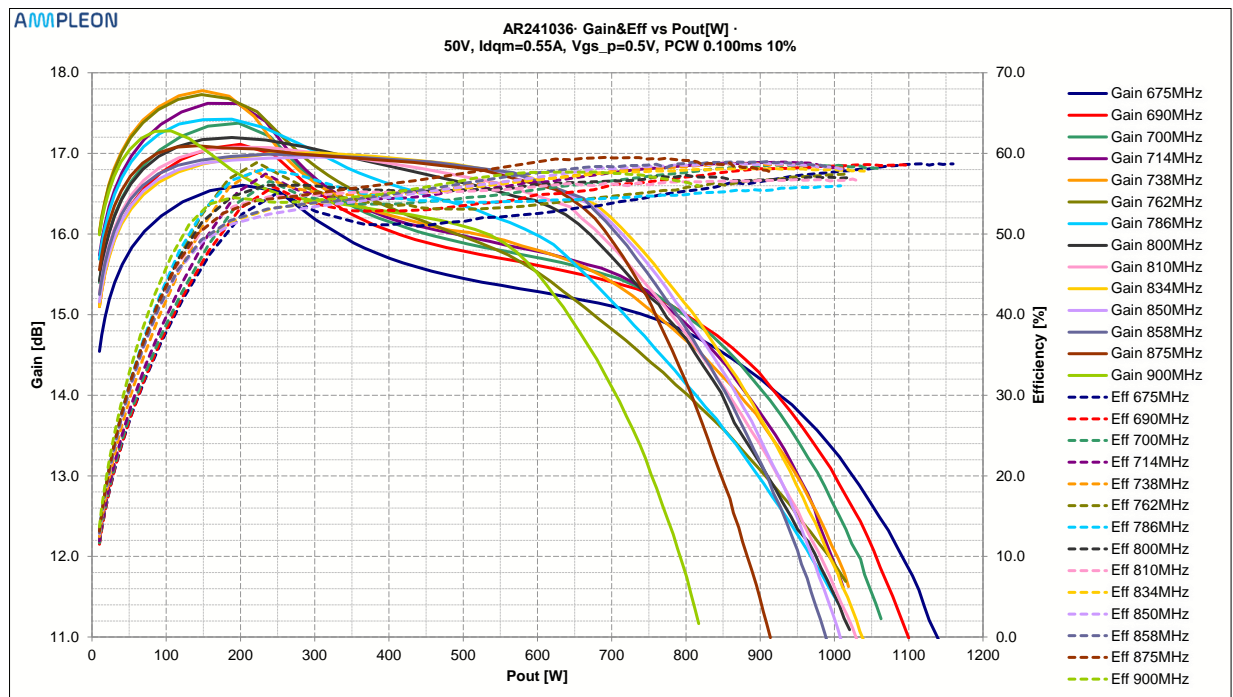

Figure 11 Pulsed CW, Gain [dB] + eff [%] as function of Pout [W] Vgs_p=0.5V
- Figure 11 Pulsed CW, Gain [dB] + eff [%] as function of Pout [W] Vgs_p=0.5V 11